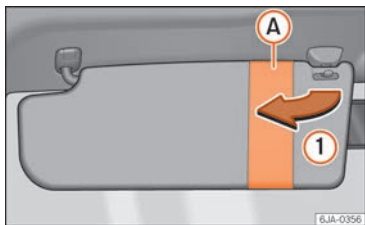
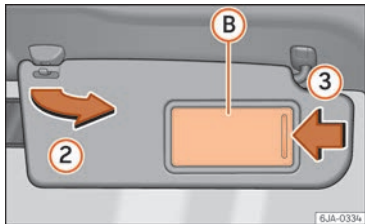

Fig. 138 Driver's sun visor.
Fig. 139 Front passenger's sun visor.
The sun visors for the driver and the front passenger can be pulled out of their central supports and turned towards the doors in the direction of arrow ① » Fig. 138 and ② » Fig. 139 respectively.
The front passenger sun visor includes a vanity mirror ② with a cover. The cover is opened by sliding it in the direction indicated by arrow ③ » Fig. 139.